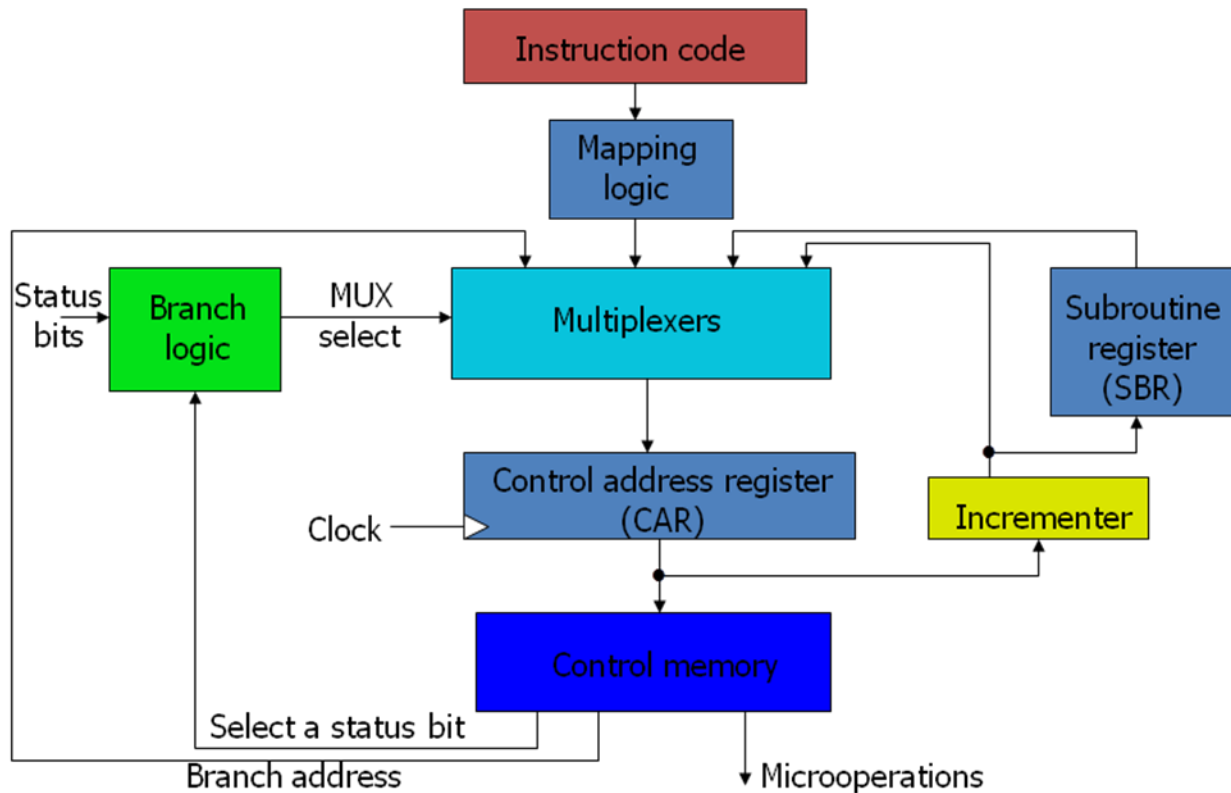

Fig 3-2: Selection of address for control memory
- Fig. 3-2 shows a block diagram of a control memory and the associated hardware needed for selecting the next microinstruction address.
- The branch logic of Fig. 3-2 provides decision-making capabilities in the control unit.
- The control memory and its register are organized as a *microprogrammed control unit*, as shown in Fig. 3-2.